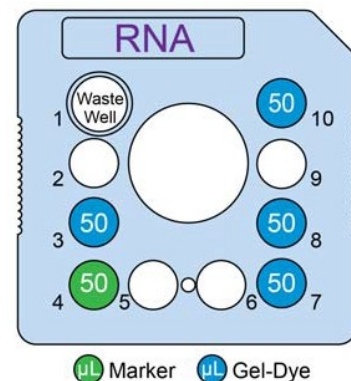

Figure 1. Low-Throughput Chip Preparation
2. Add prepared Gel-Dye to chip wells 3, 7, 8 and 10 (as shown in Figure 1) using a Reverse Pipetting Technique.
3. Add **50 µL** RNA Pico Marker ● to chip well 4 (as shown in Figure 1).